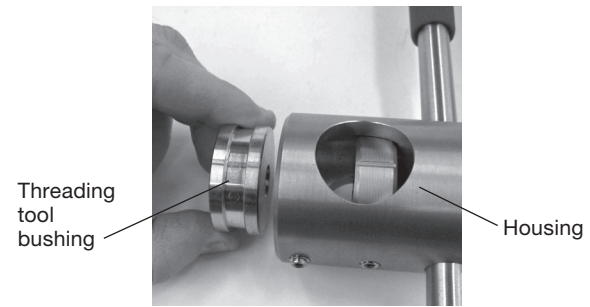

Fig. 13 Removing the threading tool bushing
2. Remove the threading tool bushing from the housing. (Fig. 13)